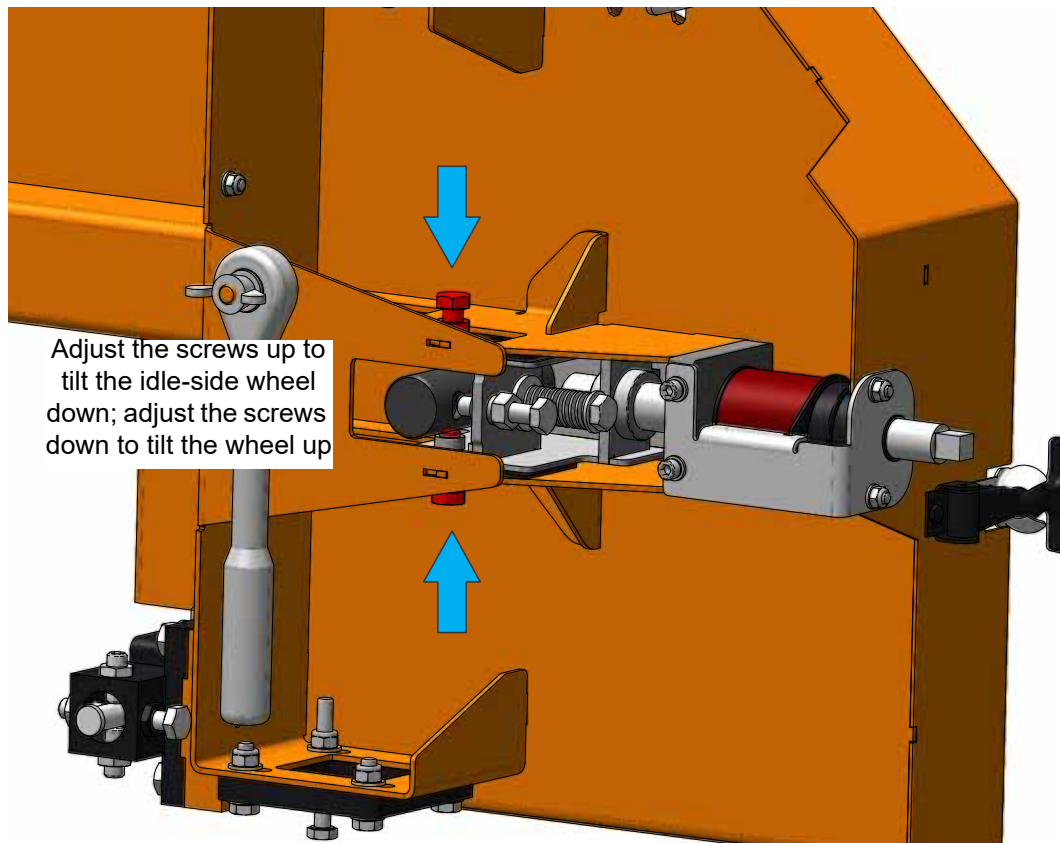

FIG. 3-8
**See Figure 3-8.** To tilt the idle-side blade wheel up, loosen the lower nut and adjustment screw 1/2 turn, loosen the nut on the upper adjustment screw and tighten the upper screw. Then tighten the upper and lower nut.